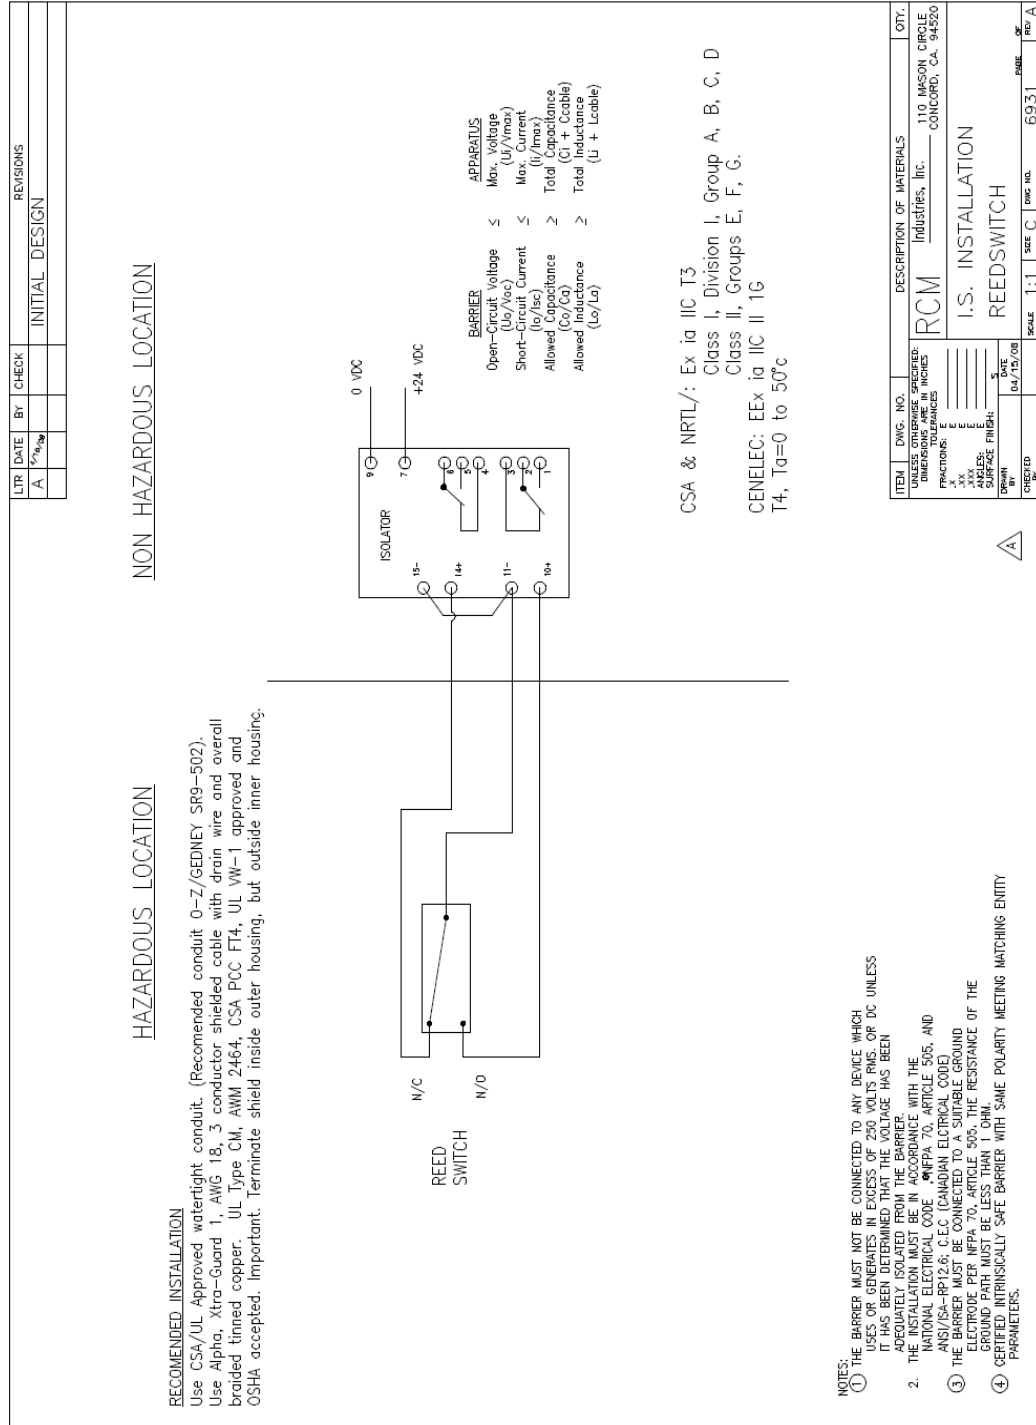

Figure 4
Intrinsically safe apparatus never stand alone. Generally, it is part of a system in which the certified components are used to guarantee the safety of the system. A simplified schematic of an intrinsically safe system is shown below in figure 4.
2. Remove the back cover plate to gain access to the reed switches. Loosen the 2 adjustment clamp screws to the point where when moving the reed switches there is some resistance. Refer to figure 4 for details.